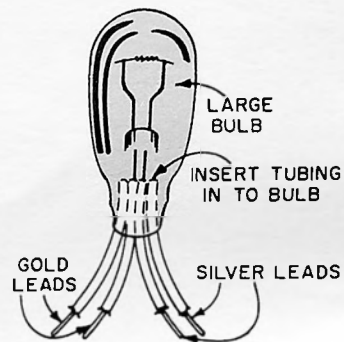

FIGURE 24. LARGE BULB
- I-3, one of the large bulbs. Carefully separate the four leads as shown in Figure 24. Place a  $1\frac{1}{4}$ " piece of small tubing over each of the leads. Slide the tubing into the bulb. Place the two gold leads on one side of the bulb and the two silver leads on the other. Connect the leads as follows: